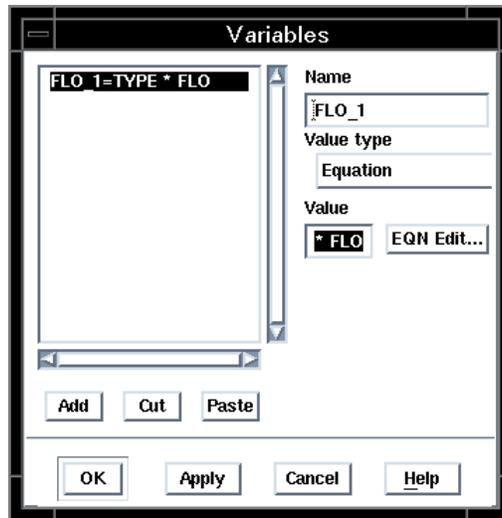

Figure 9. Equation Dialog Box
2. Choose VAR from *Unit, Variables, and Equations* library to see the dialog box in Figure 9.